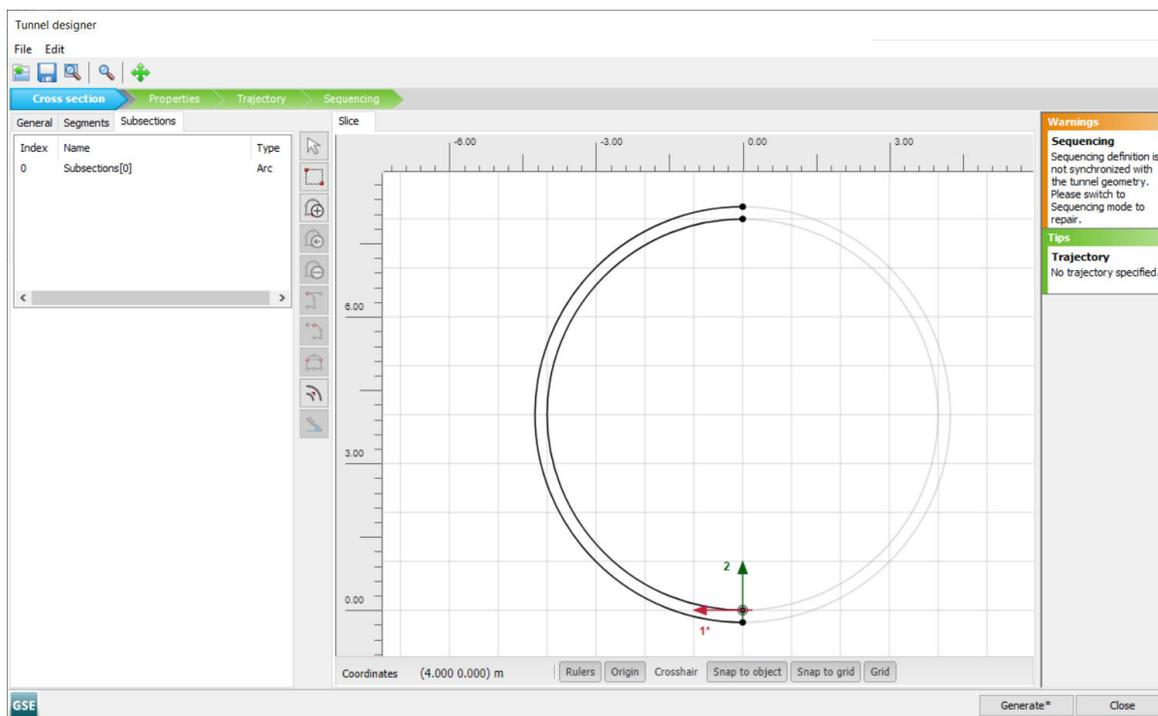

Figure 63: The Cross section tabsheet of the Tunnel designer
- Assign a value of 0.25 m and click **OK**. A screenshot of the **Cross section** tabsheet after the proper assignment is given in Figure 63 (on page 89)